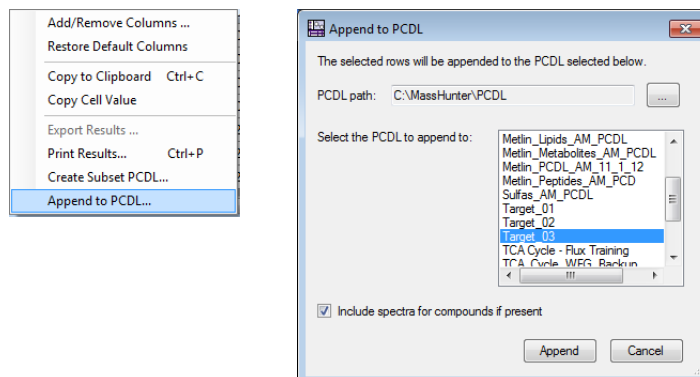

Figure 30 Append to PCDL from the Compound Results Table and the Append to PCDL dialog box.
- i Click **Append to PCDL** (Figure 30 on page 33).
- j Select **Target_03**, the compound database containing the interesting compounds from the TCA cycle pathway, for **Select the PCDL to append to** in the **Append to PCDL** dialog box (Figure 30 on page 33).